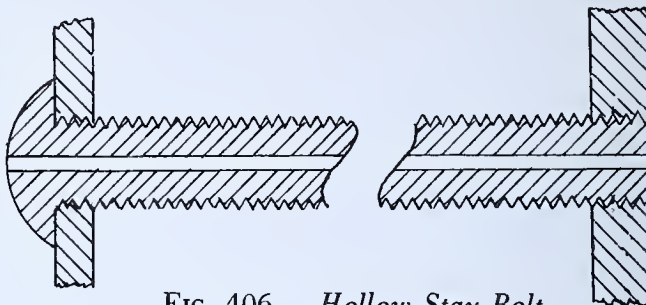
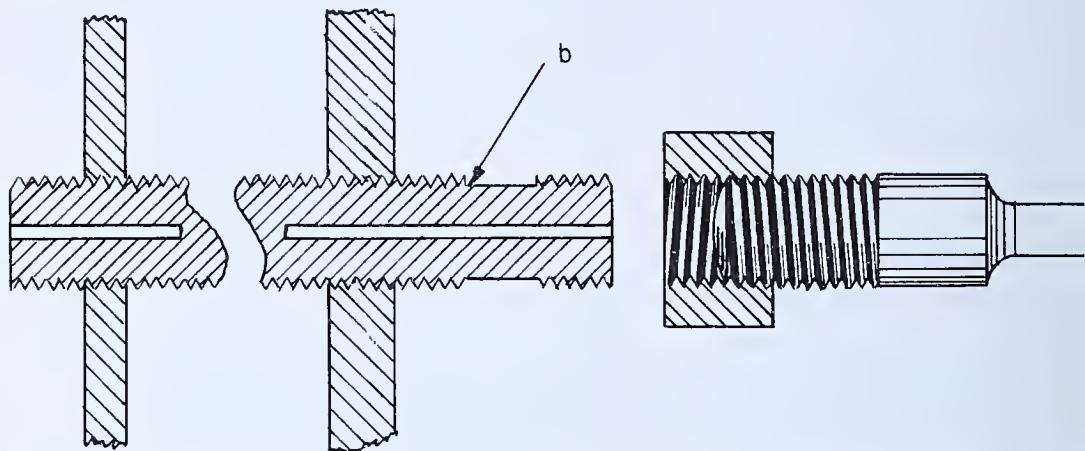

FIG. 406 — *Hollow Stay Bolt*
FIG. 407 — *Common Type of Stay Bolt Installed; Stay-bolt Driver*
Another type of stay bolt is shown in Fig. 406. This type of stay bolt has a telltale hole all the way through, and it is called a hollow stay bolt. Hollow stay bolts are installed in special locations. Figure 407 is a commonly used type of stay bolt.
When the stay bolt has been screwed in to a sufficient distance, it is broken off or burned off at the "neck" as shown at *b* in Fig. 407. The projecting ends of the stay bolt are then turned over with a bobbing tool
Allow 1/4" on each side of the sheet for riveting plugs for a neck and a head. See Fig. 407. If the stay bolt is of a nut type, allow enough length on each side of the boiler sheet to take a full nut.
5. Install the stay bolt through both sheets as far as possible by hand; then use a stay-bolt driver, Fig. 407, to screw the stay bolt to the correct distance into the job.
7. Calk the stay bolt on both sides whether it is to be tightened with nuts (as in Fig. 411) or headed over and riveted (as shown in Fig. 406).